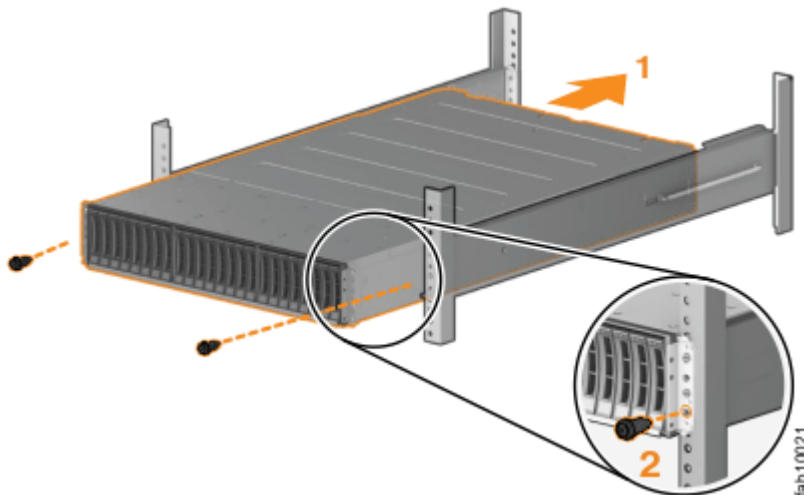

Figure 22. Inserting the enclosure in the rack
3. Carefully slide the enclosure into the rack along the rails until the enclosure is fully inserted (see Figure 22 on page 32).
(See Figure 22 on page 32.) The left end cap has indicator windows that align with the status LEDs (light-emitting diodes) on the edge of the enclosure.